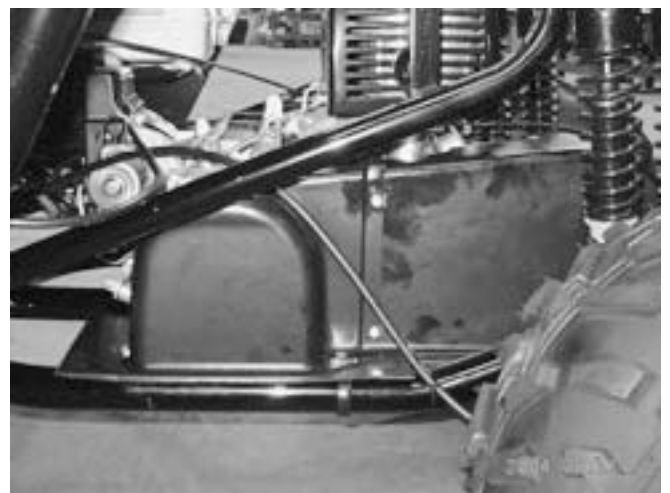

figure 5.7
5. Reinstall the belt guards. Figure 5-7.